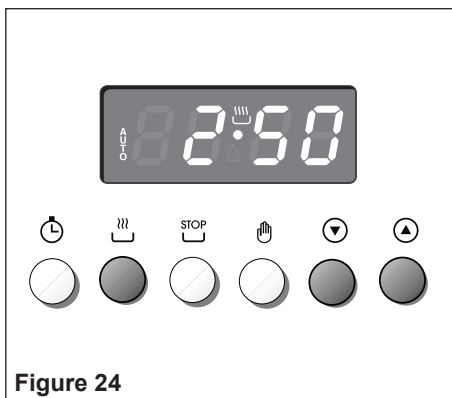

Figure 24
1. Set the length of the cooking time by pushing the  button and the  button to advance, or  to go backwards if you have passed the desired time (fig. 24).